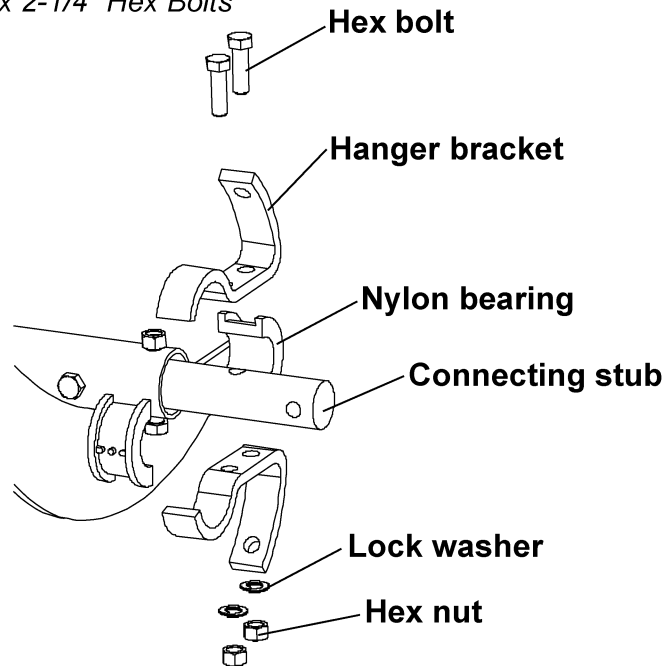

Figure 5E
- A. Bolt the nylon bearings and hanger brackets to the connecting stubs using hex bolts, lock washers, and hex nuts as shown in Figure 5E.